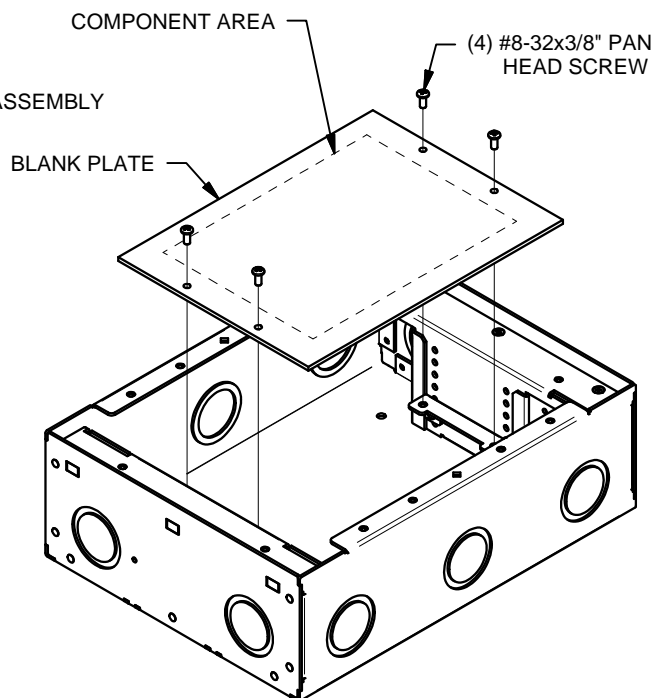

FIGURE 8
5. MODIFY BLANK PLATE AS NECESSARY TO MOUNT DESIRED COMPONENTS. INSTALL THIS PLATE AS SHOWN IN FIGURE 8.